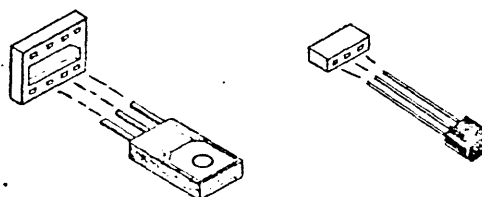

Figure 3. Transistor Mounting
3.02 All transistors are mounted in sockets for ease of replacement. Ensure the transistors are oriented as shown in Figure 3. The transistor reference designations are shown in Assembly Drawing A600149. Q2 and Q3 (MPSA56) should have a white dot on the top. Q1 must be inserted with the metal-plated side up, and in the right-most three positions of the DIP socket.